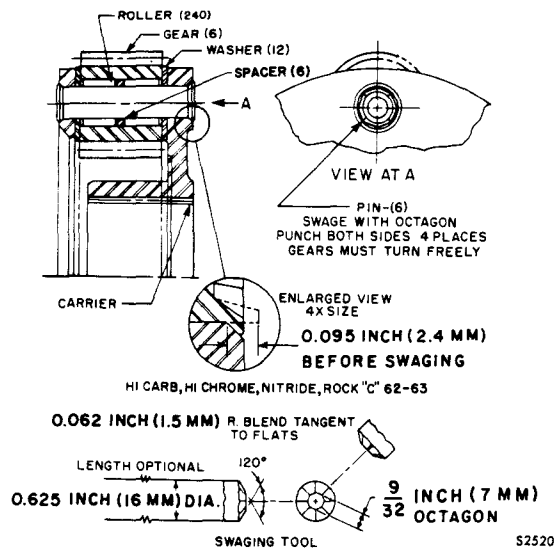

Fig. VI-27. Low-range planetary carrier assembly—cross section
a. Disassembly (item 70, A, foldout 10, and refer to fig. VI-27)
(1) Position the carrier assembly, hub upward, on a drill press table.
(2) Using a 1/2-inch (12.7 mm) twist
c. Assembly (item 70, A, foldout 10, and refer to fig. VI-27)
(1) Make a pinion alining tool by grinding or turning a chamfer on one end of a six-inch length of 1/2-inch (12.7 mm), cold-rolled steel shafting.
(2) Coat the bore of each pinion with oil-soluble grease.
(3) Holding the alining tool in one hand, install a thrust washer 72 (A, foldout 10) and then a pinion 73 onto the alining tool.
(8) Repeat procedures (3) through (7), above, for the remaining pinion groups. Align the pinion groups in the carrier by inserting the alining tool in each spindle bore.
(9) Press new spindles through the carrier and pinions until they project 0.095 inch (2.4 mm) from the inner ends of the countersinks in the pinion bores at the rear of the carrier (see inset detail of fig. VI-27).
(10) Stake both ends of the spindles into the countersinks of the carrier.